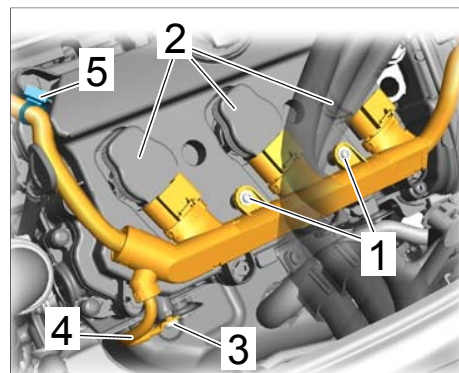

Figure 12
- 5.8 Unscrew fastening screws ⇒ *Figure 12 -item 1-* and release electric plug connections on the ignition coils ⇒ *Figure 12 -item 2-*.
- 5.9 Unscrew fastening screw ⇒ *Figure 12 -item 3-* on the ground strap ⇒ *Figure 12 -item 4-* at the right on the cylinder head housing.
- 5.10 Unclip retaining clip ⇒ *Figure 12 -item 5-* on the cylinder head cover.